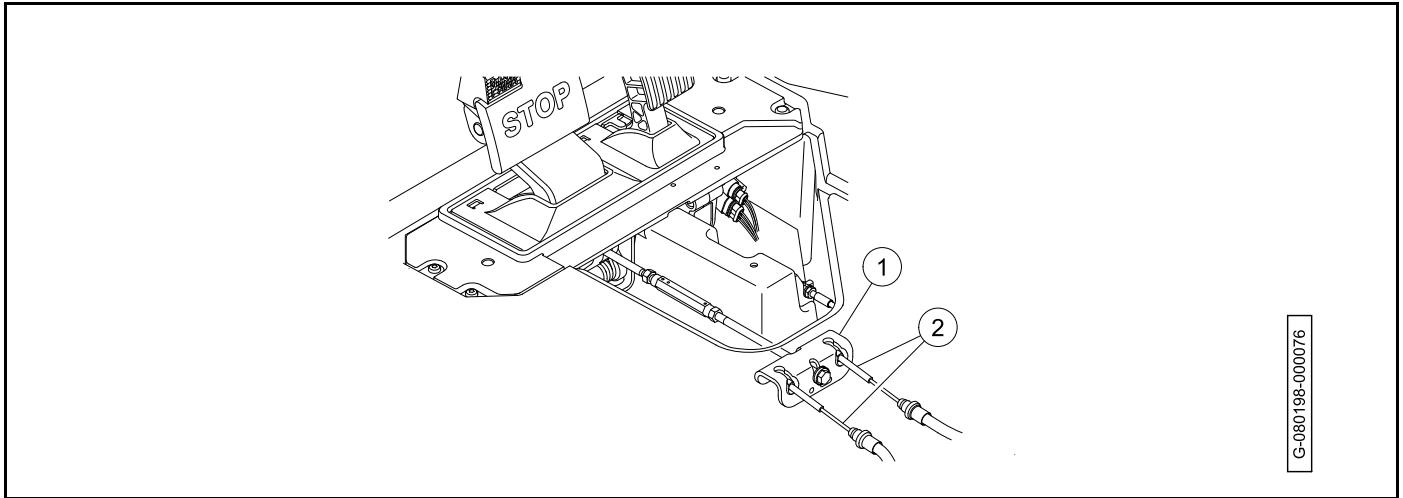

Figure 6-26
6. Remove the turnbuckle from the brake actuator rod (4).
- Lift the brake actuator rod and equalizer bracket (1) (**Figure 6-26**).